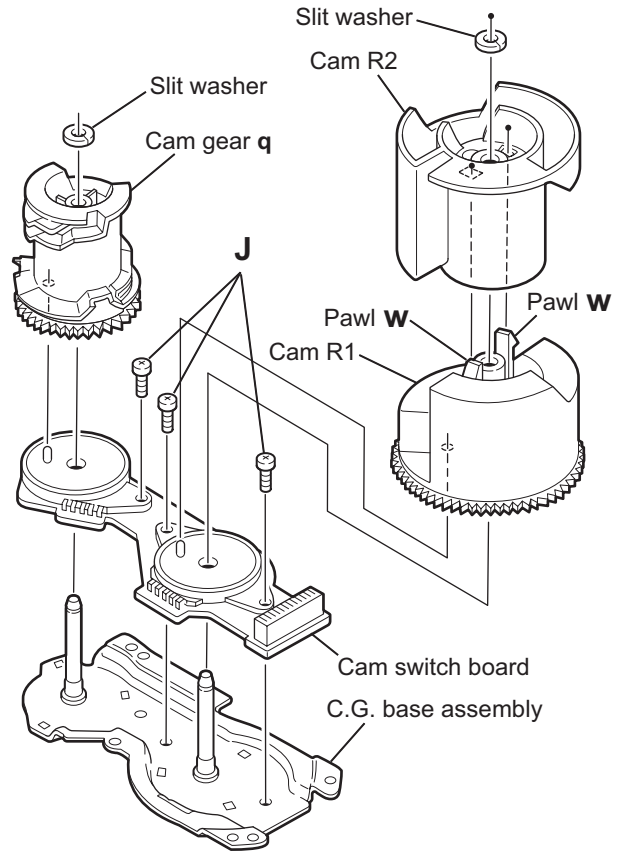

Fig.22
3.3.9 Removing the cams R1/R2 assembly and cam gear q (See Fig.22)
3.3.10 Removing the C.G. base assembly (See Fig.22 and 23)